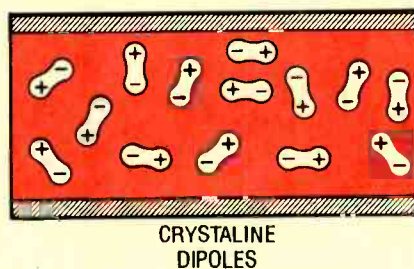
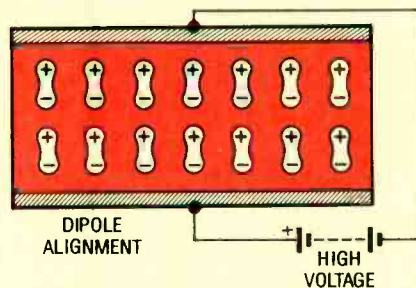

Fig. 2. Piezoelectric film contains dipoles, a molecule that has a natural opposite polarity on either end.
Fig. 3. A voltage causes the dipoles to align, and the material to change its shape.
A variation on that theme is to add the device shown in Fig. 3. The wire antenna and downlead are similar to the ones in Fig. 2. However, at the feed end you have the ability to select direct coupling to the rig, capacitive coupling for antennas that are too long for the operating frequency, and an inductor for frequencies that require a longer antenna. The minimum and maximum values for the inductor and the capacitor are shown in Fig. 3. Use the lower values for antennas that are predominantly in the high end of the MF spectrum, and the larger ones for lower frequencies.
Fig. 2. It is common to use the term long wire for antennas that are actually random-length wire antennas. If the antenna element is, say, 100-feet long, then it is a long wire at frequencies of 20 MHz and up, and a random-length antenna for lower frequencies.
Fig. 2. Although this diagram of the Utah Artificial Arm shows a hand "terminal device," the arm can also support other terminal devices such as a prosthetic hook for use around the shop.
Piezoelectric film contains *dipoles* that are produced in the material's crystalline structure. A dipole is a molecule that has opposite polarity on either end (see Fig. 2). The film is metallized on either side so that a voltage can be placed across the film. The voltage causes the dipoles to align, and the material to change in shape as shown in Fig. 3 (as it gets thinner, it gets longer and wider). When an audio or AC signal is placed across the film, the film changes shape in accordance with the signal. As the voltage polarity reverses, the film bends in the opposite direction. And, as you might have guessed, the film can produce sound waves much like a regular speaker.
Fig. 2. A phase-shift oscillator relies on the fact that the feedback network will permit only a signal of the desired frequency to have a 360° phase shift around the loop.
**The Phase-Shift Oscillator.** The circuit in Fig. 2 is called a phase-shift oscillator. In this particular circuit, an op-amp and two resistors (R1 and R2) form the amplifier. The feedback circuit consists of three capacitors (all with the same value, C) and three resistors (all with the value R) that set the frequency of oscillation. As the signal is fed through the network, a phase shift of 180° occurs. Hence, the name "phase-shift oscillator." The other important aspect of the feedback network is that it gives an attenuation, B, of 1/29.